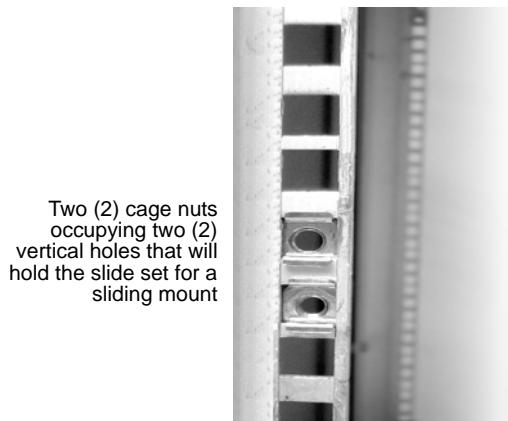

FIGURE 1-21. Cage nuts for a sliding mount
4. Install one pair of cage nuts to occupy holes between the marks you made on the front vertical rail (see *Figure 1-21*).